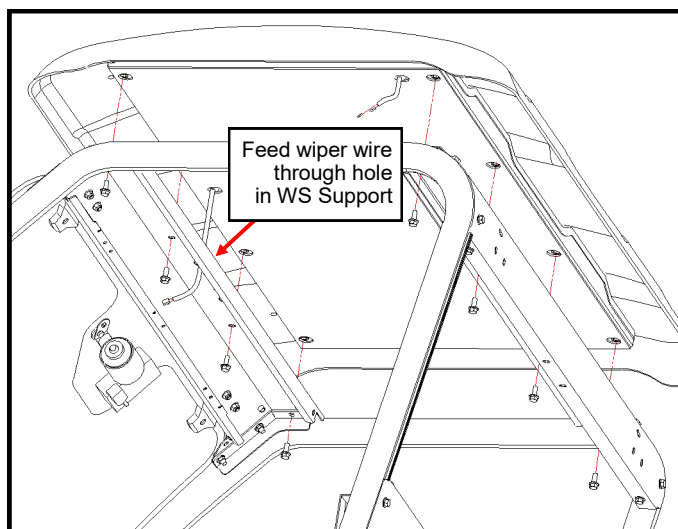

Figure 4.1: Roof Installation
4.1 With assistance, place the roof assembly on top of the frame (**Figure 4.1**) and feed the wire at the front-center of the metal roof pan through the larger hole at the center, closer to the driver's side in the windshield support.
- (8) 5/16-18 x 3/4" Flanged Hex Head Bolts
- Align the threaded inserts in the roof with the holes in the windshield support and upper rear panel and install four 5/16-18 x 3/4" bolts through each panel and into the inserts in the roof (**Figure 4.1**).